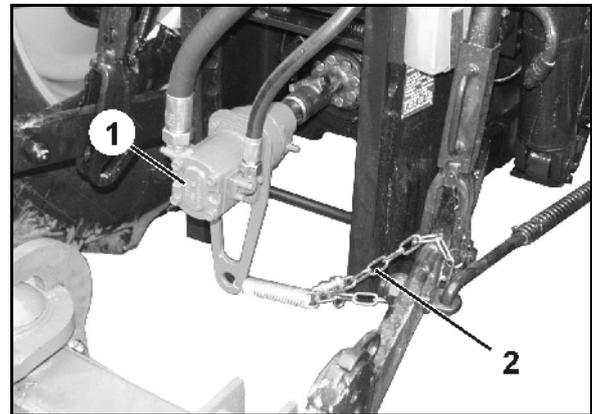

Fig. 71
Connect the hydraulic slide-on pump (Fig. 71/1):
3. Secure the hydraulic slide-on pump against movement by attaching the chain (Fig. 71/2).